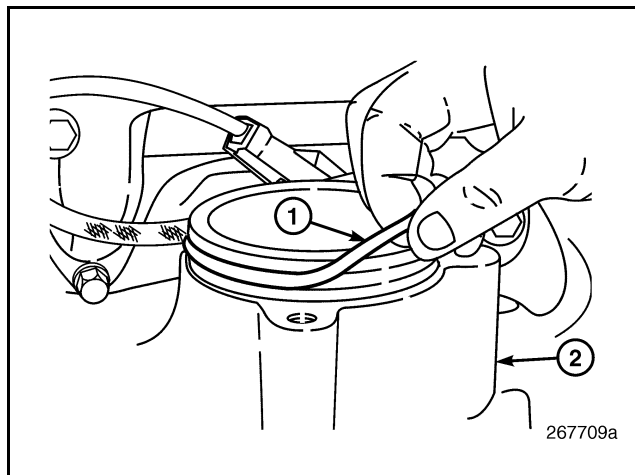

Figure 427 — O-Ring Installation
- Clean and inspect the mounting collar on the inlet manifold. Then, install a **new** O-ring on the collar (Figure 427).